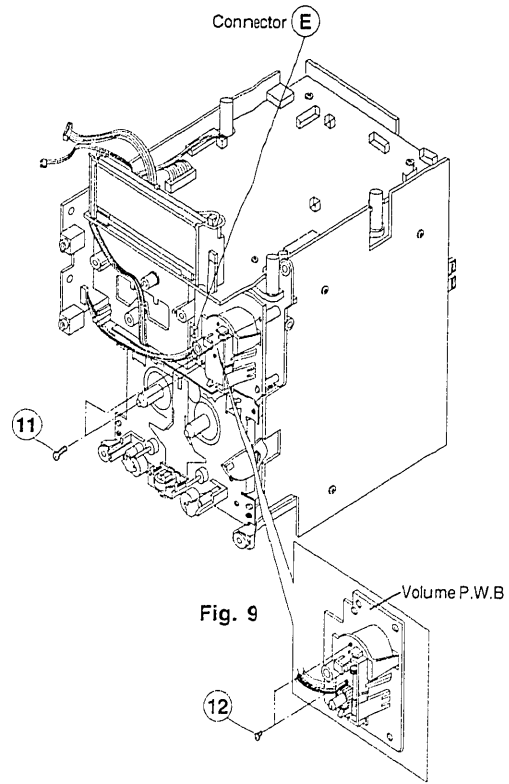

Fig. 9
- (1) Remove 3 screws ⑩ from the Main Chassis and then disconnect 1 connector ⑩.
8. **Removal of Volume P.W.B and Volume Gear (Fig. 9)**